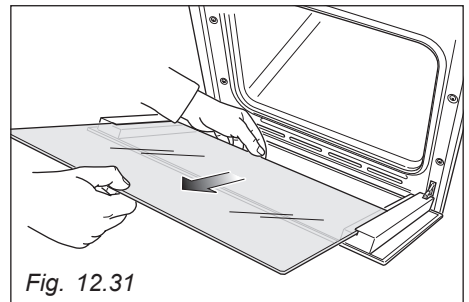

Fig. 12.31
- Gently pull out the inner pane of glass (fig. 12.31).